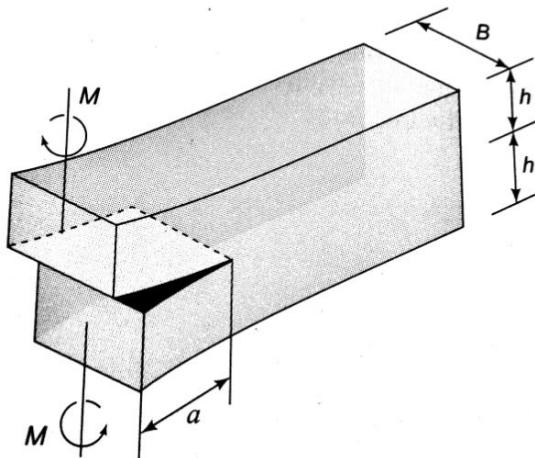

Figure 4d
d) Determine the energy release rate for an edge cracked loaded as shown in the figure 4d. **05**